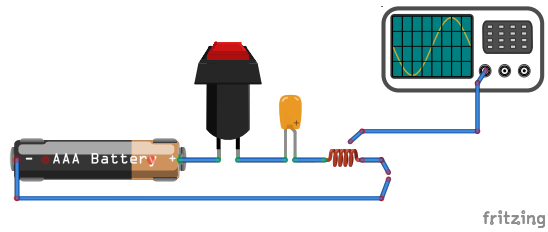

Figure 2: Zapper
S. 7 – Position the oscilloscope as shown in the figure 2, at a distance of 10 cm from the zapper.